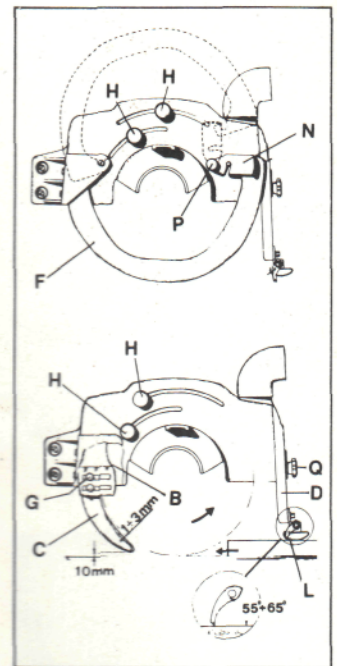

Fig. 23
- (i) Loosen the 2 knobs (H) (Fig. 23) and slide the riving knife bracket (B) down until the tip of the riving knife (C) is approximately 10mm ($\frac{3}{8}$ ") from the surface of the machine's worktable. The distance of the riving knife from the blade must be between 1-3mm. (adjust by loosening the screws (G) and sliding the knife left or right within the bracket slots).
- (ii) Loosen the knob (Q) on the back of the guard and lower the bracket (D) until the central spring on the bottom of the bracket just touches the surface of the timber (i.e. when the tips of all anti-kickback fingers (L) are positioned at about $\frac{1}{8}$ " below the surface of the wood before you start to feed the timber into the blade). Once the anti-kickback fingers have come into contact with the surface of the timber, they should be at the angle indicated.